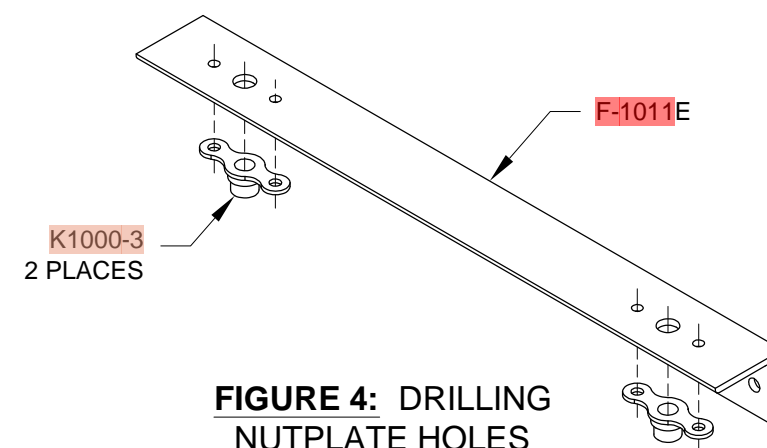

FIGURE 4: DRILLING NUTPLATE HOLES
Step 5: Match-Drill the nutplate rivet holes into the **F-1011E** Rudder Cable Angle as shown in Figure 4. The nutplates can be temporarily held in place with AN3 bolts while the holes are drilled. Match-Drill one rivet hole and cleco it before drilling the second. This will prevent the nutplate from rotating before the second hole is match-drilled.